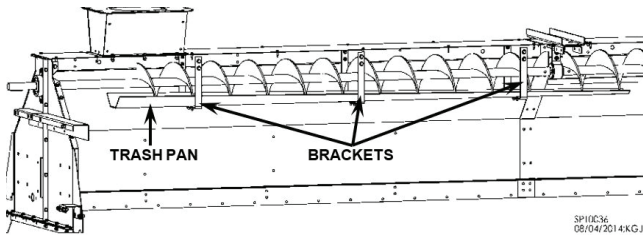

Fig. 2-15 - Trash pan and bracket installation
1. Bolt trash pan brackets into wet bin on filling end of dryer. Bolt trash pan to trash pan brackets. See Fig. 2-15.